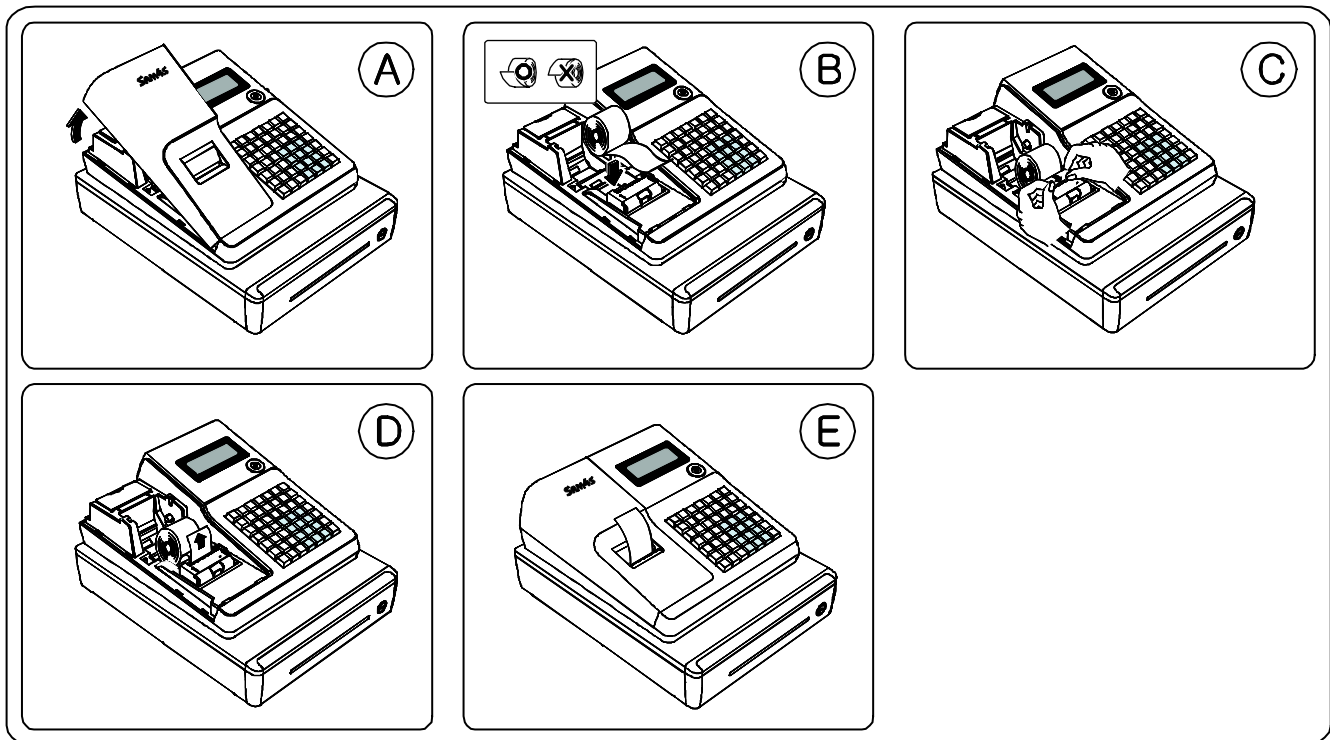

Figure 3-2. Paper Installation
1. Remove the printer cover.(Fig 3-2 (A))
(Be sure to remove any paper with glue residue.) Place the paper roll in the paper holder so that the paper will feed from the bottom of the roll.(Fig 3-2 (B))
3. Insert the end of the paper into the paper slot.(Fig 3-2 (C))
4. Close the paper lever. (ER-260 Series is possible to feed automatically when you rock the paper levers and insert paper.). (Fig 3-2 (D))
5. Replace the printer cover.(Fig 3-2 (E))